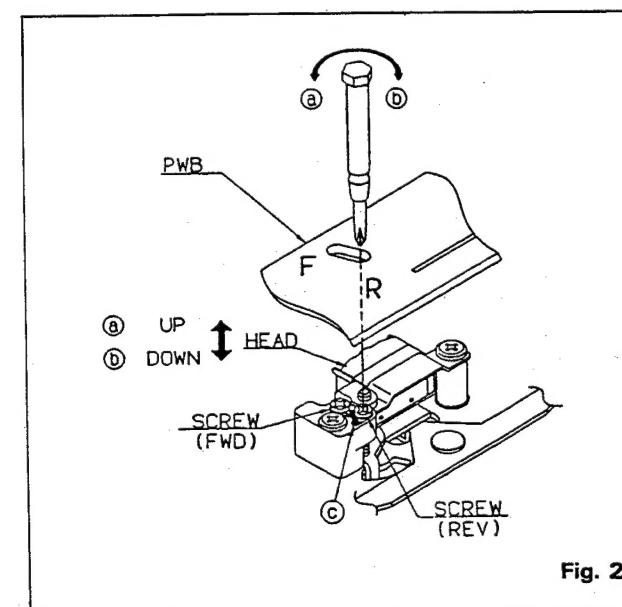

Fig. 2
(1) Play back azimuth tape (10kHz, -10dB) and adjust the screw so that the peak of FWD and REV will be 10kHz. (Refer to Fig. 2)
(2) After completion of adjustment, apply LOCK-TIGHT Bond to the ④ section. (Refer to Fig. 2)